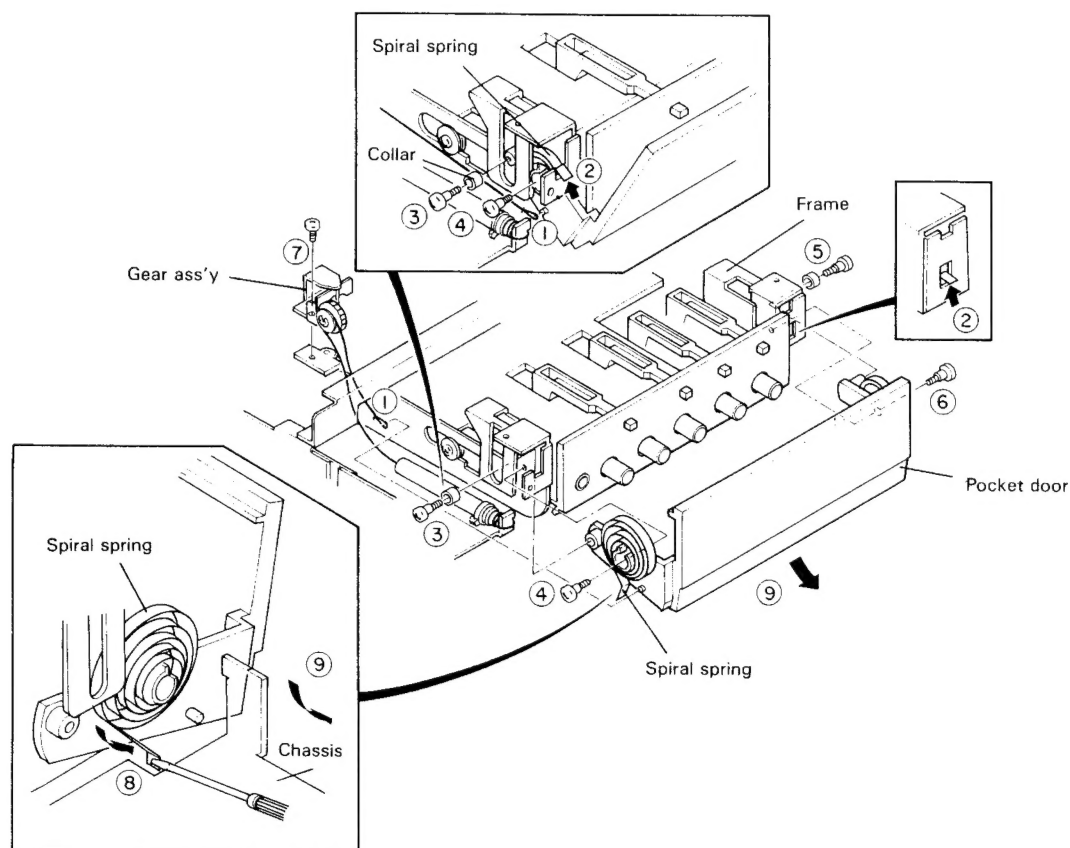

Fig. 5 How to remove control pocket
2. Remove the string from the boss on the sub panel. (Fig. 5-①)
3. Remove the spiral spring. (Fig. 5-②)
4. Remove the screws from both side on the sub panel. (Fig. 5-③ ~ ⑥)
5. Remove the gear ass'y. (Fig. 5-⑦)
6. Free the spiral spring from the chassis pushing it with a screw driver. (Fig. 5-⑧)
7. Remove the pocket door in the direction of the arrow. (Fig. 5-⑨)